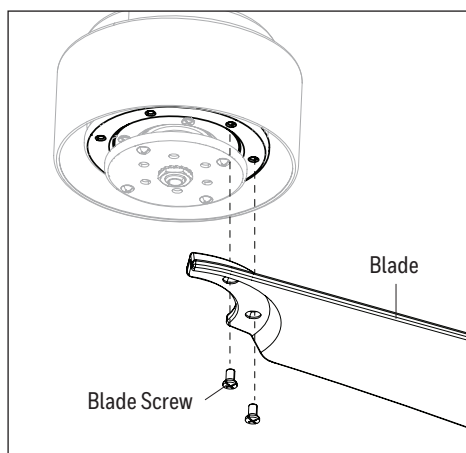

Figure 5.3
- Align the two blade screws in the blade with two blade holes in the underside of the motor assembly. Secure the blade to motor assembly using two blade screws. Completely secure each blade to the motor assembly before moving to next (Figure 5.3).